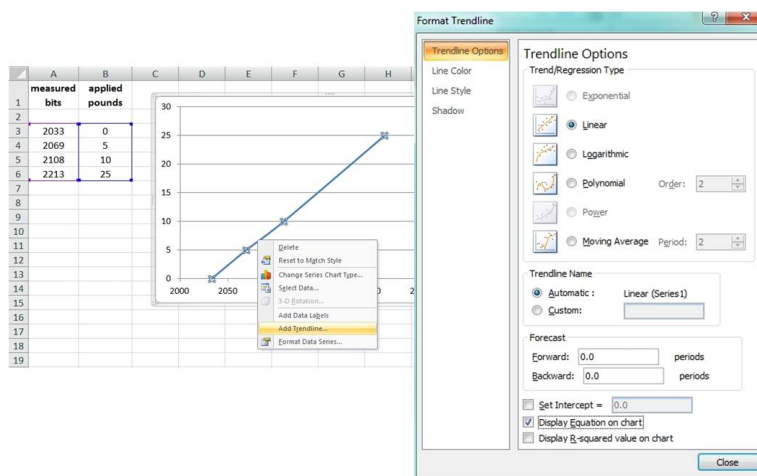

Figure 47 - Plot Trendline
5. Designate the line as Linear, and check the option to Display the Equation on the chart (Figure 47 - Plot Trendline).